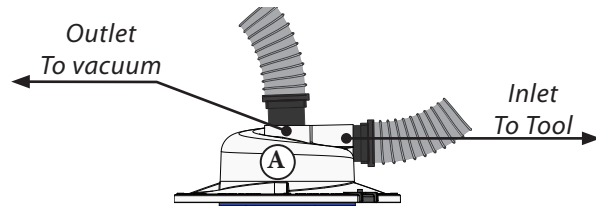

FIG. 2
1. Make certain that you vacuum and tools are connected properly to the Low-Pro. The Low-Pro's top outlet port to your vacuum and the Low-Pro's side inlet port to your tool with your vacuum's hose [FIG. 2].